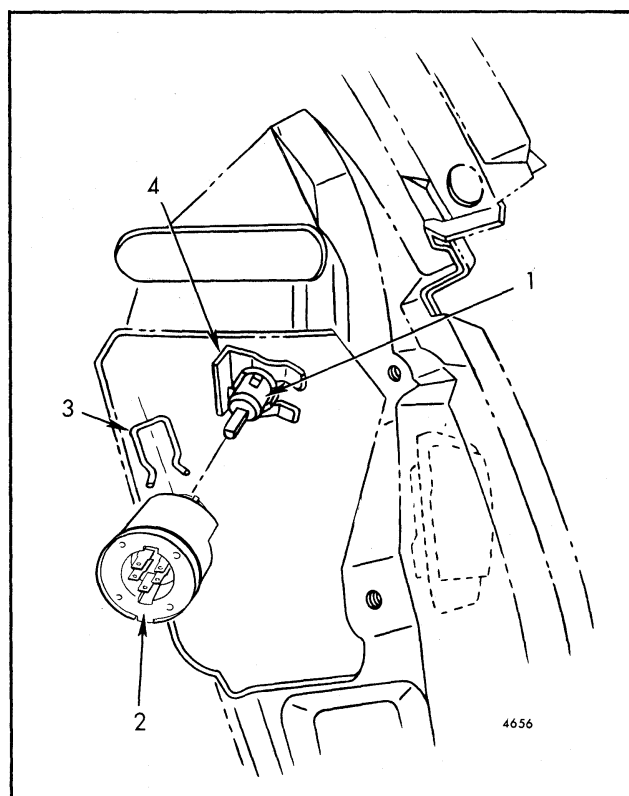

Fig. 7-144-Electric Window and Gate Switch Assembly
5. On power tailgates pull control switch toward front of car to separate switch from cylinder and remove switch (Fig. 7-144). Do not disengage switch-to-cylinder retaining clip.
The tailgate and window control switch for power operated tailgates is comprised of a key cylinder and a switch assembly held together by a wire-type clip (Fig. 7-144). The switch includes three positions, each to the right and left of center (vertical) position, of the key cylinder. The total of six switch positions
2. Remove key cylinder retaining clip and remove cylinder (Fig. 7-144).